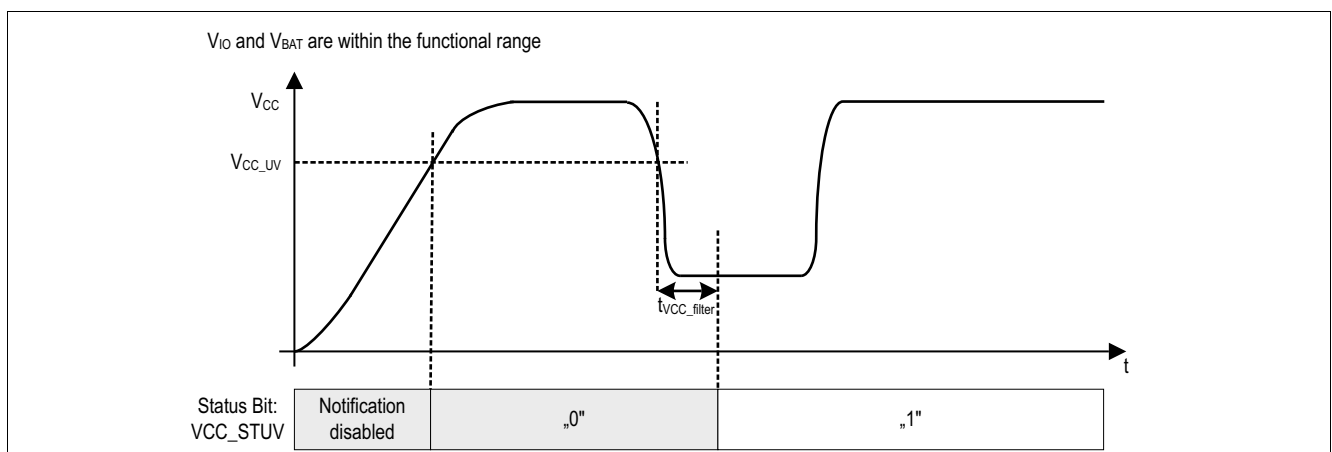

Figure 27 Undervoltage detection V_{CC} during V_{CC} supply stabilization period after Power on Reset
- Set short-term undervoltage bit **VCC_STUV** to “1” in the SPI register **TRANS_UV_STAT**. Only after the completion of a Power on Reset, the V_{CC} supply stabilization period must be completed before an undervoltage notification can be recorded in the **VCC_STUV** bit. After Power on Reset the undervoltage notification is only possible once the V_{CC} supply has exceeded the threshold V_{CC_UV} , that is $V_{CC} > V_{CC_UV}$. **Figure 27** shows this scenario.